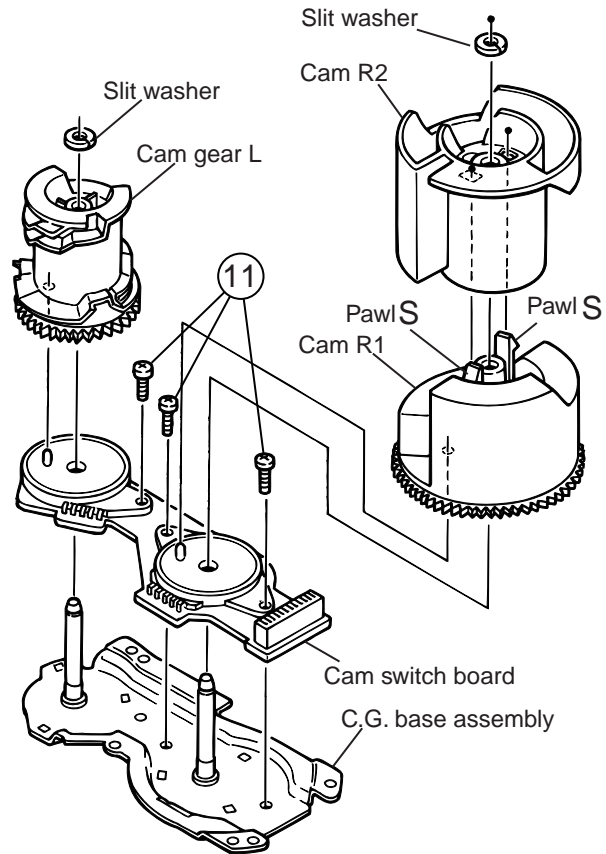

Fig.22
[Note] When the chassis assembly is turned over under the conditions wherein the gear bracket and belt have been removed, then the pulley gear as well as the gear, etc. constituting the gear unit can possibly be separated to pieces. In such a case, assemble these parts by referring to the assembly and configuration diagram in Fig. 22.
■ Removing the cams R1/R2 assembly and cam gear L (See Fig.22)
■ Removing the C.G. base assembly (See Fig.22 and 23)